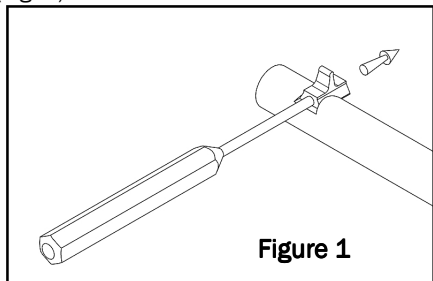

Figure 1
4. Remove the original front sight from the barrel by supporting the barrel close to the end. Use a punch to drive the front sight blade out of the dovetail slot in the barrel from left to right. (Fig. 1)